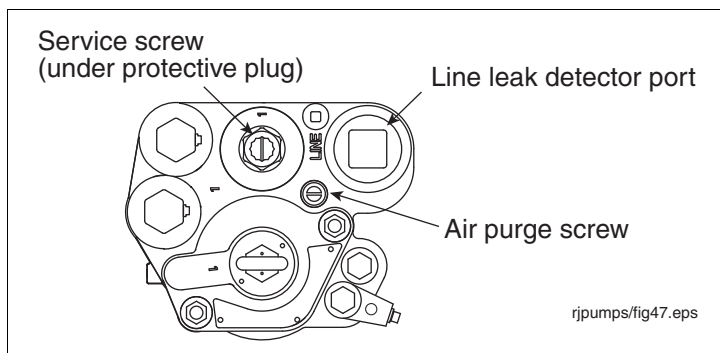

Figure 22. Locating Discharge Port Plug For Line Leak Transducer
2. Remove and save the protective plug over the service screw and turn the screw clockwise (see Figure 22). As the screw approaches its bottom position, you will hear the system depressurizing. Continue turning the screw until it can go no further. When the screw is all the way down, back off the screw 4 turns to lift the check valve and let the fuel drain out of the manifold's hydraulic cavities.
6. Open the air purge screw 2 - 3 turns counterclockwise (see Figure 22).